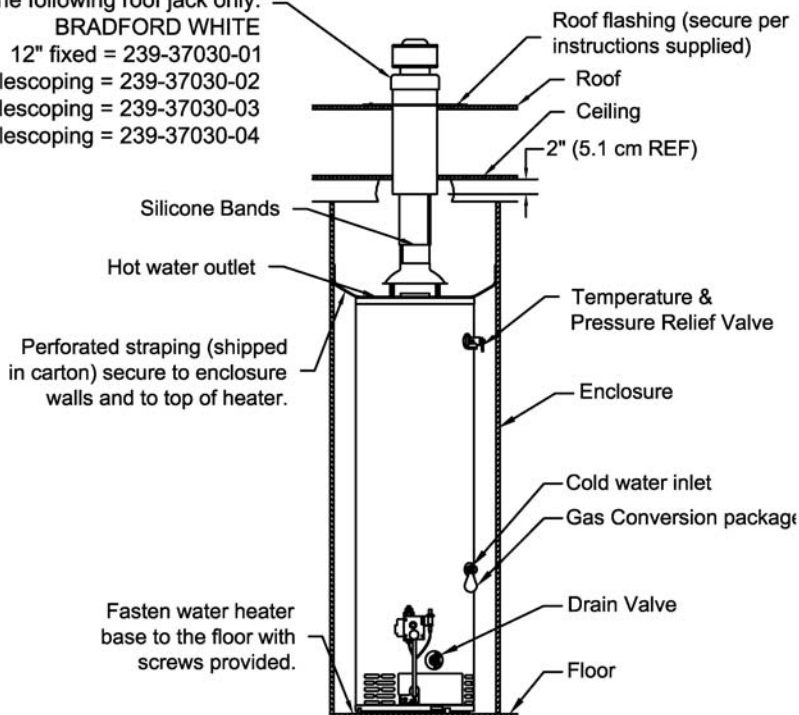

Figure 2
Make certain the flue baffle is in place and centered in flue tube. Place the draft diverter over the flue opening at the top of the water heater by inserting the tips of the draft diverter legs into the four (4) holes provided in the water heater top. Cut a 7 1/4 inch (18.5cm) diameter hole in the ceiling and roof directly above the flue of the water heater. Center the water heater beneath the 7 1/4 inch (18.5cm) diameter holes in the roof and ceiling for proper alignment of the draft diverter and roof jack vent. Apply non-hardening mastic on the roof, around the previously cut hole, to form a weather seal with the flashing of the gas vent roof jack assembly. Insert gas vent roof jack assembly from above and fasten the flashing to the roof through the pre-punched holes in the flashing. **Note: Only the roof jacks listed in Figure 2 can be used on this water heater.** Apply additional non-hardening mastic to complete the weather seal. Slip the 3inch (7.62cm) vent connector extension that is shipped telescoped, into the gas vent roof jack assembly down onto the draft diverter that is secured to the top of the water heater and fasten with the two (2) sheet metal screws provided.
All combustion air must be supplied from outdoors by one of the following installation methods and as illustrated in Figure 2. The flow of combustion and ventilating air must not be obstructed. Adequate air must be supplied for combustion and ventilation. An insufficient supply of air will cause recirculation of combustion products resulting in air contamination that may be hazardous to life. Such a condition often will result in a yellow, luminous burner flame, causing carboning or sooting of the combustion chamber, burners and flue tubes with possible damage to the heater.
The water heater is to be secured in place using the supplied sheet metal strapping and screws. Fasten the base of the water heater to the floor using the screws provided. The perforated metal strapping must be fastened to the top of the water heater and to the adjacent walls with the screws provided (See Figure 2).